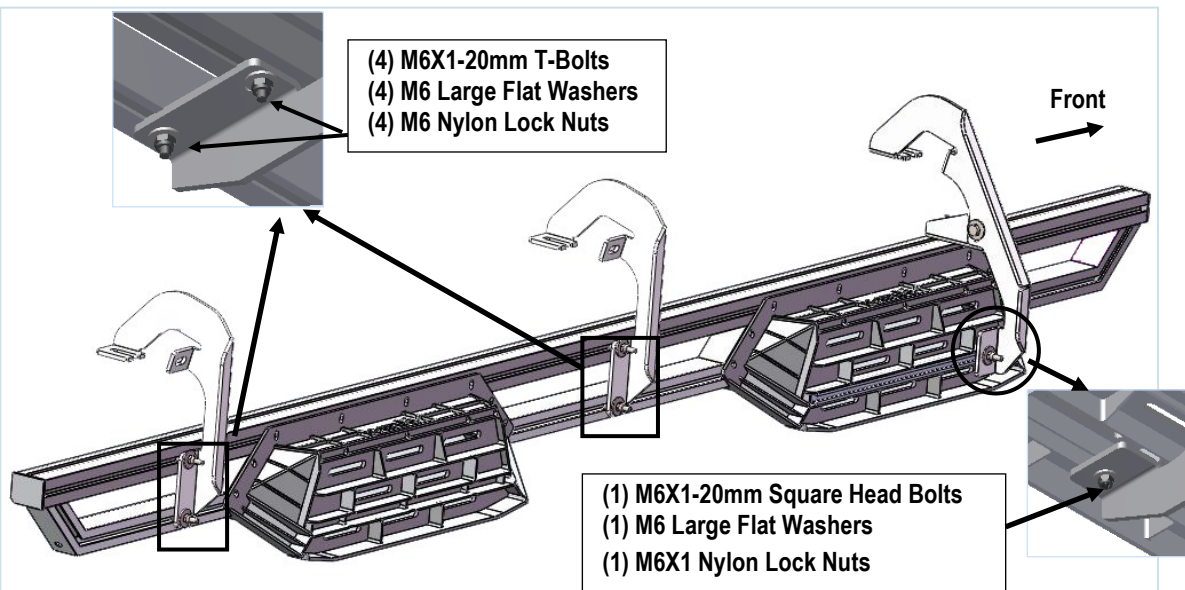

Fig 10A Assembled Driver Side Step Bar Installed
Select the Driver/Left Side Assembled Step Bar, attach the Step Bar to the Brackets with (4) M6X1-20mm T-Bolts, (2) M6X1-20mm Square Head Bolts, (6) M6 Large Flat Washers and (6) M6X1 Nylon Lock Nuts, (**Fig 10A & 10B**). Do not tighten hardware at this time.